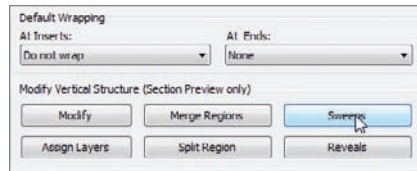

FIGURE 16.9 Adding a sweep to the wall
8. Click the Sweeps button, as shown in Figure 16.9.